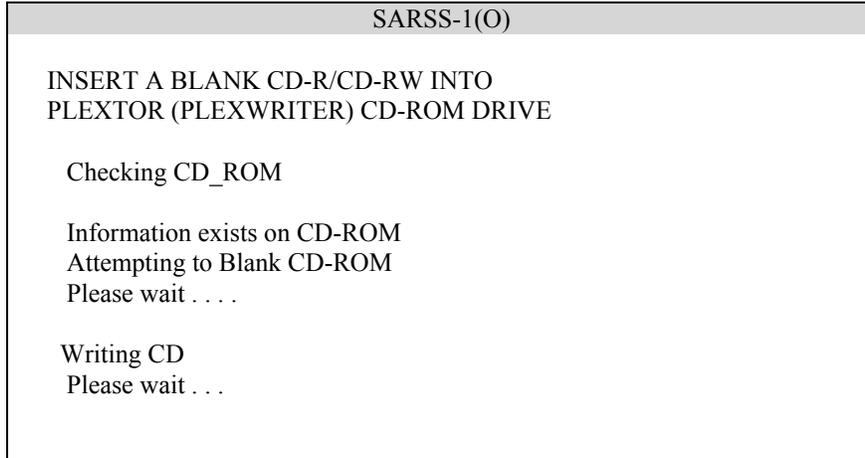

Figure 4-7 Exception Message
4.2.2 SYSBLD Errors and Messages. During creation of the System Load CD, several messages indicating exceptions or errors may be displayed. When an error condition occurs, you will be given the option to retry the operation or to “ABORT” the operation. An example of a message indicating an exception is shown in (Figure 4-7). In the example given, the system has detected that a CD-RW was used which already contained data. The system was able to erase the data and reuse the CD-RW CD-ROM successfully.